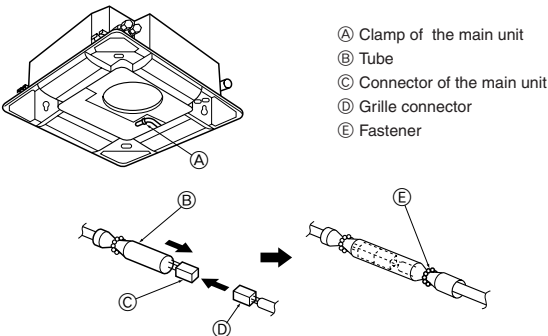

Fig. 10-8
10.4.4. Wire connection (Fig. 10-8)